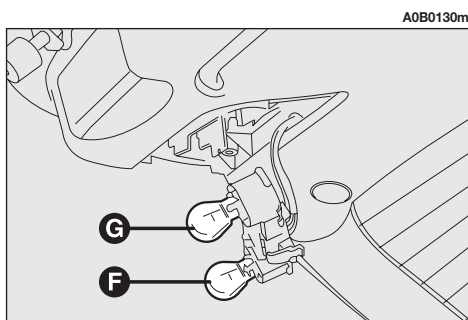

fig. 50
– Remove and replace the bulb concerned (spherical with bayonet coupling) pressing lightly and turning counterclockwise (**fig. 50**):